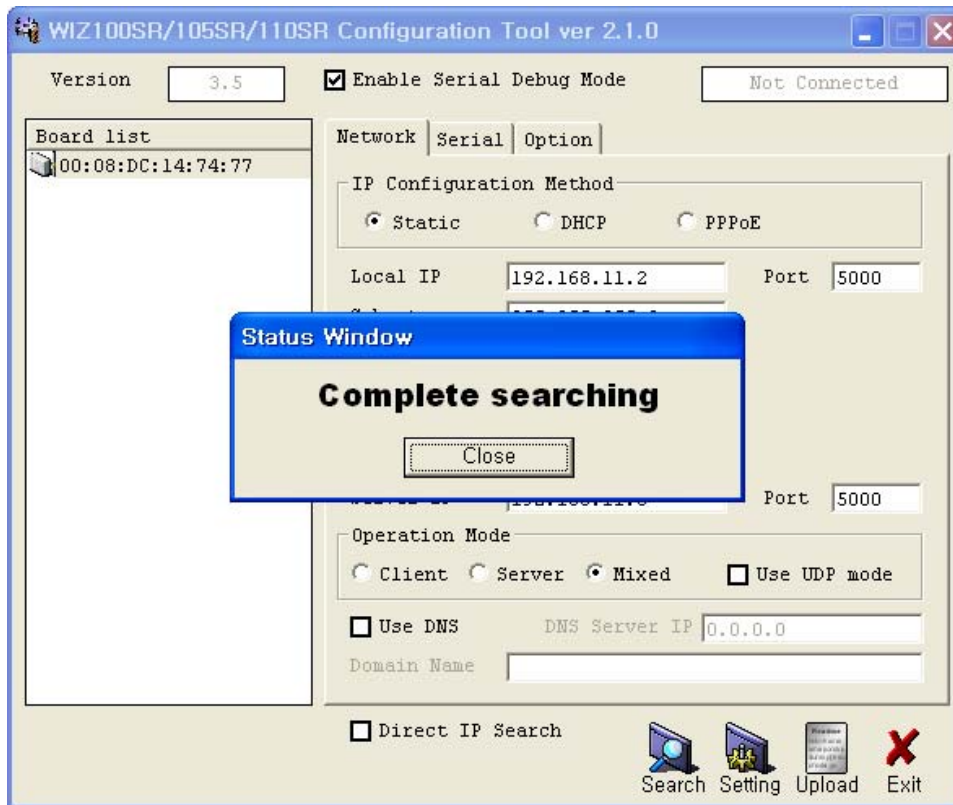

Figure 10. Board Search Window
3. As shown in Figure 10, select Option tab and check 'Enable' combo box of "Password" menu.
④Serial Configuration:
- ① Select a module shown in "Board list", and click "Upload" button.
- ☞ Before uploading through Ethernet, you should set the network information of WIZ105SR first by Configuration Tool program as shown above Fig 10. By using Ping test, you can check if network is correctly configured.
- ② When the window as shown below Figure is displayed, select file for upload and click "Open" button.